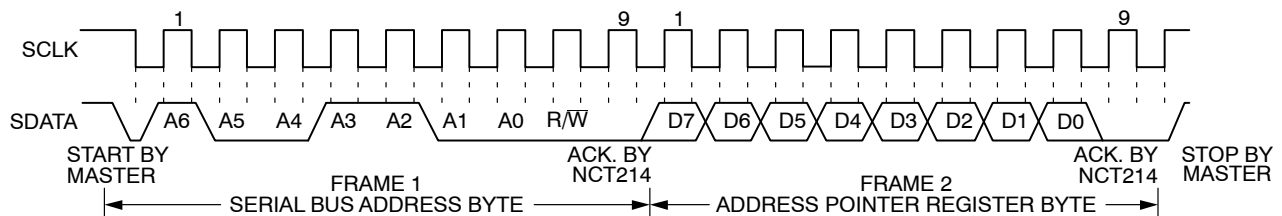
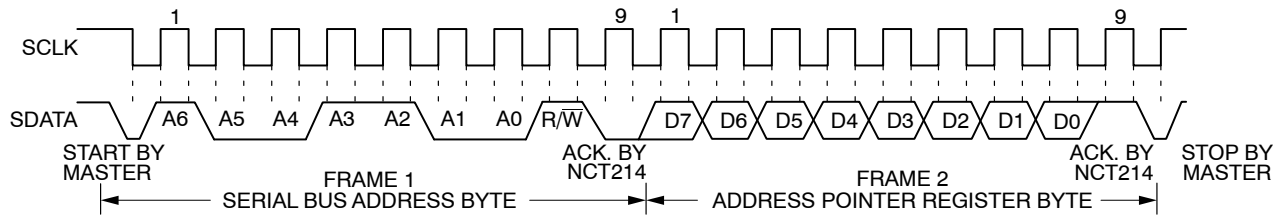

Figure 16. Writing to the Address Pointer Register Only
Figure 17. Reading Data from a Previously Selected Register
- If the address pointer register value of the NCT214 is unknown or not the desired value, it is first necessary to set it to the correct value before data can be read from the desired data register. This is done by writing to the NCT214 as before, but only the data byte containing the register read address is sent, because data is not to be written to the register see Figure 16. A read operation is then performed consisting of the serial bus address, R/W bit set to 1, followed by the data byte read from the data register see Figure 17.
- If the address pointer register is known to be at the desired address, data can be read from the corresponding data register without first writing to the address pointer register and the bus transaction shown in Figure 16 can be omitted.